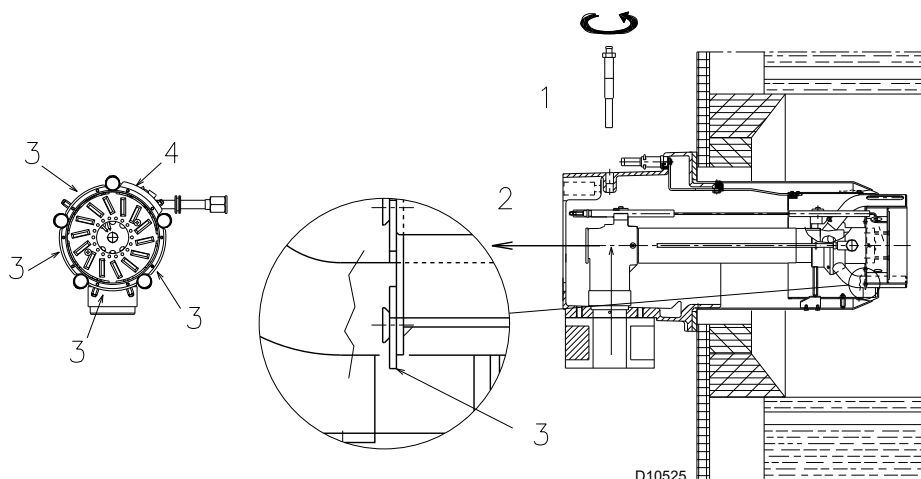

Fig. 13
RLS 160/E (Fig. 13)
- remove the screw 1)(Fig. 13) and extract the internal part 2);